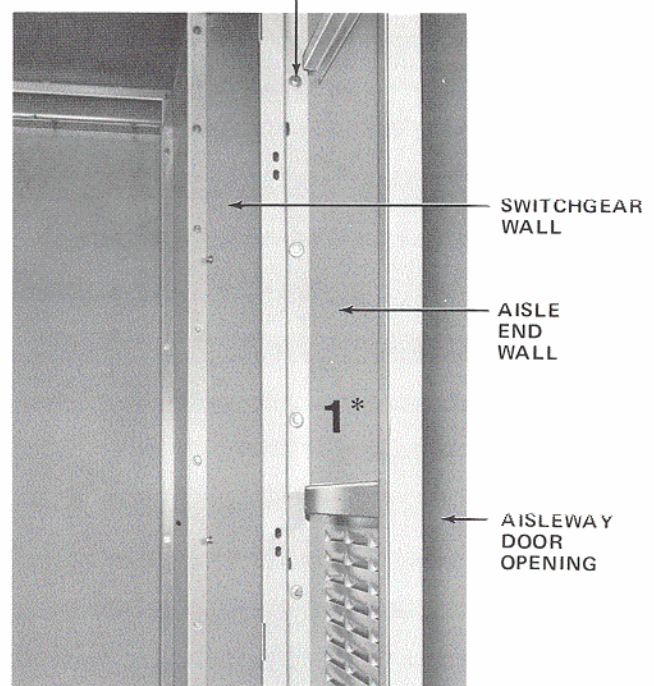

FIGURE 51
5. Install one-end wall (assembly with door) to switchgear units and to base. Apply caulking between wall and units before bolting. **DO NOT TIGHTEN BOLTS.** See Figure 51.